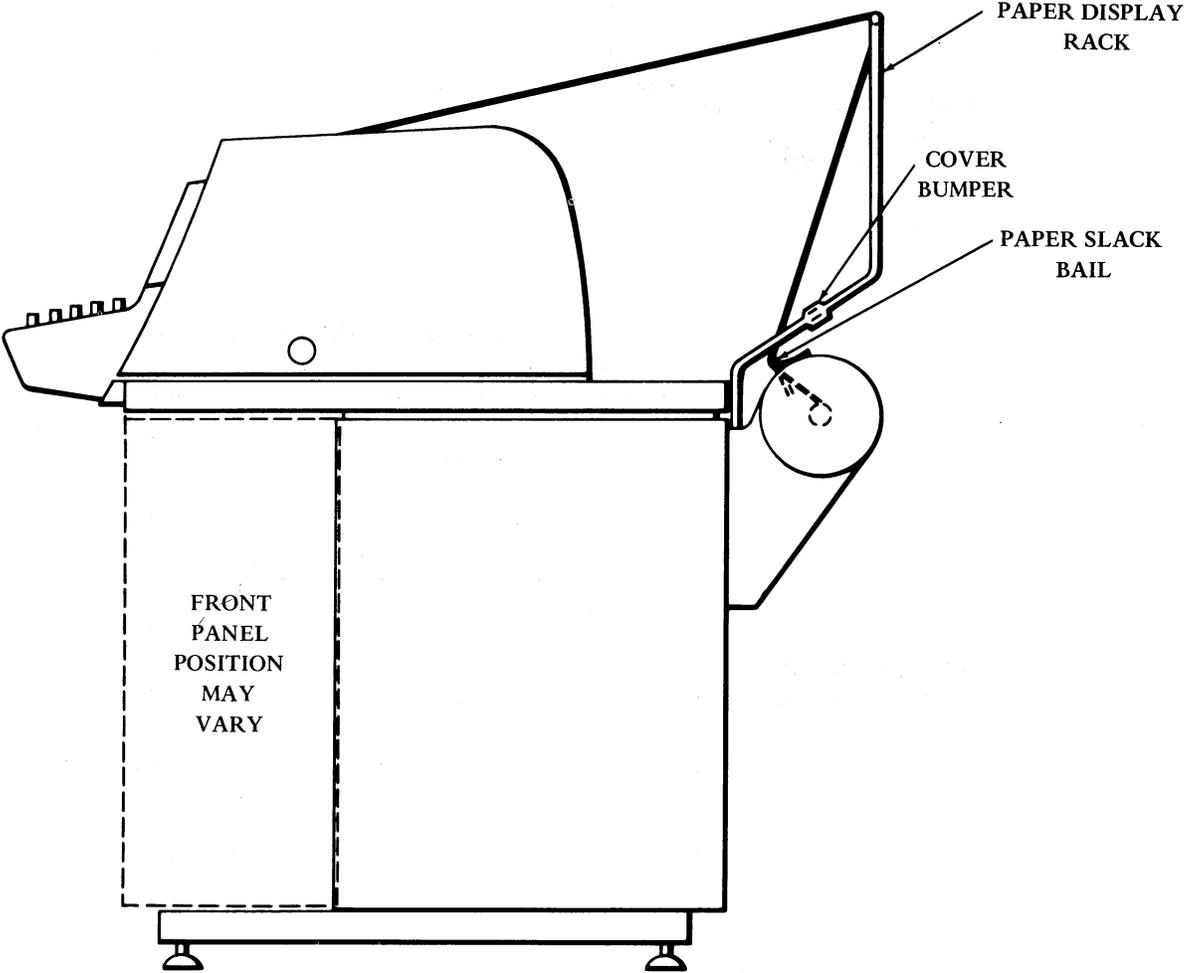

Figure 2 - Side View Tables With Center Back Panel
2.03 The paper feeds out from the set cover, and is routed over the display rack, under the paper slack bail, and around the spindle (Figures 2 and 4). When the paper slack bail is in its lowermost position, the mercury switch on the bail and the motor are on. The drive pin on the motor contacts the flange rod and winds the paper.
- 3.06 Insert the display rack and route the paper as shown in Figure 2.